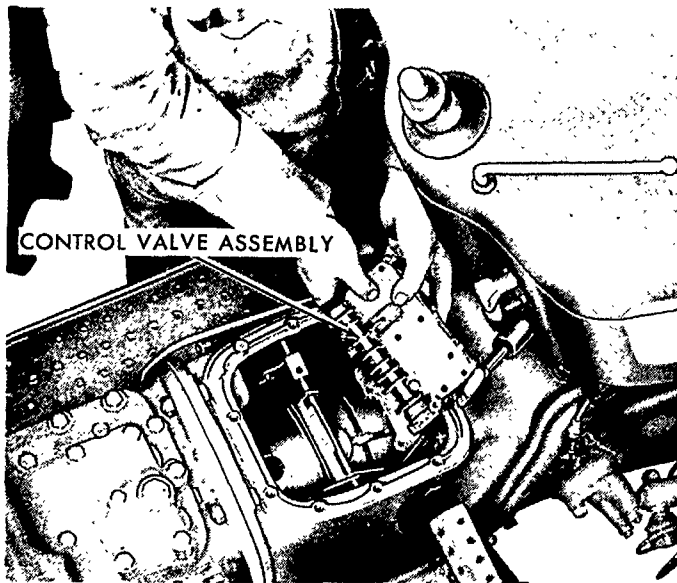

Figure 35
6. Depress the inching pedal and remove the control valve as shown in Figure 35.